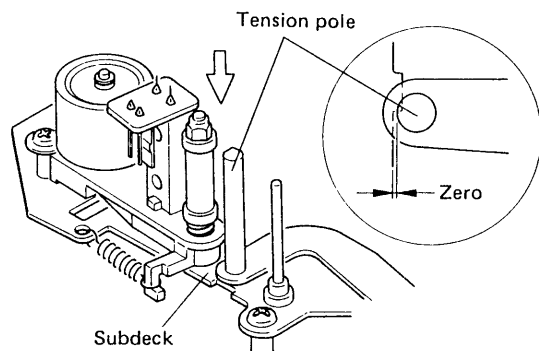

Fig. 2-17 Tension pole position
- 2) Confirm that the left side of tension pole lies upon the left side of subdeck as shown in Fig. 2-17.